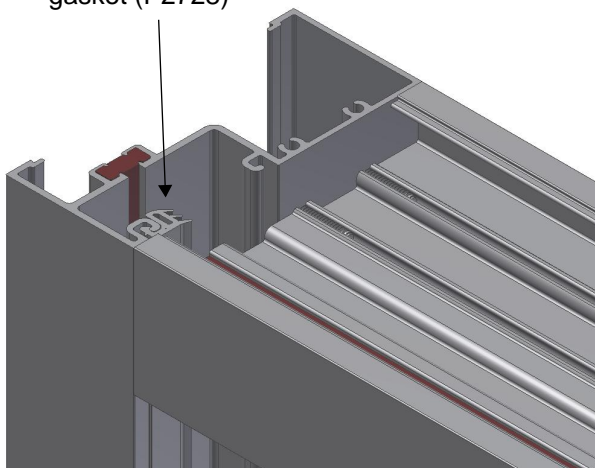

Figure 9: Install the exterior vertical gaskets.
- Install the exterior vertical gaskets, at each end and work toward the center, firmly pushing the gasket in place, as shown in Figure 9.